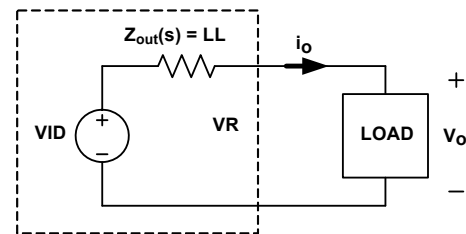

FIGURE 29. VOLTAGE REGULATOR EQUIVALENT CIRCUIT
Figure 29 shows the equivalent circuit of a Voltage Regulator (VR) with the droop function. A VR is equivalent to a voltage source (= VID) and output impedance $Z_{\text{out}}(s)$. If $Z_{\text{out}}(s)$ is equal to the load line slope LL, i.e., a constant output impedance, then in the entire frequency range, V_o will have a square response when I_o has a square change.